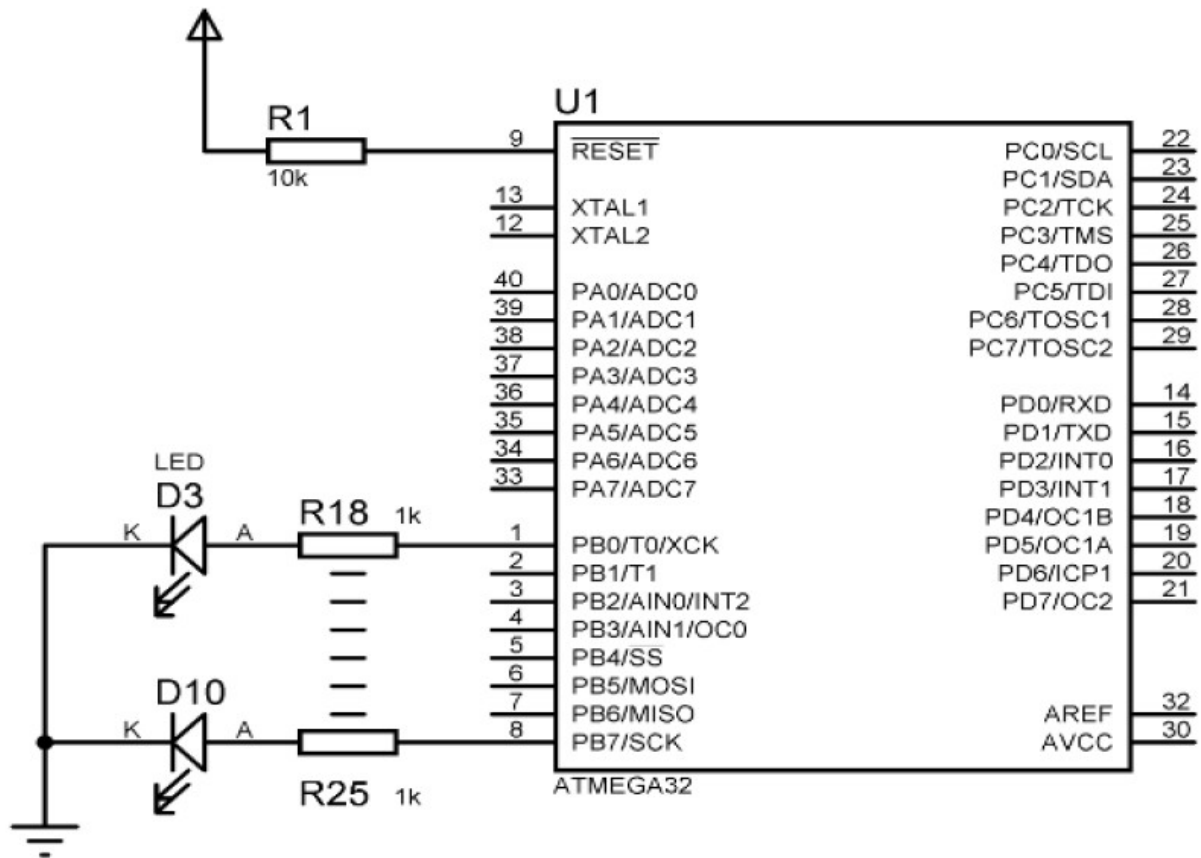

Figure 1.1 : Circuit Diagram
2. Implement the circuit as shown in figure 1.1 and give the power.